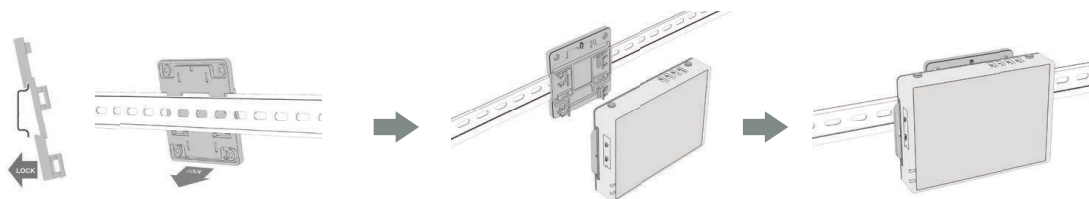

Figure 6
Step 1. Affix the mount bracket to the DIN rail (Figure 6).